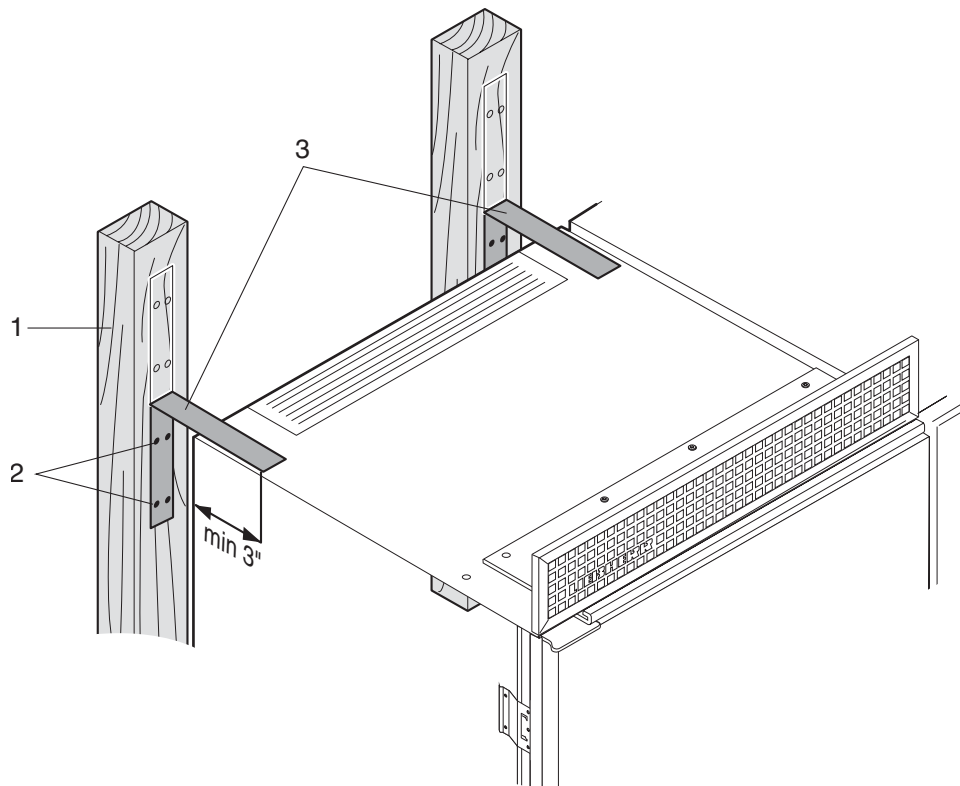

Figure 17
1. **Figure 17:** Secure the refrigerator in place so it does not tip forward when the fully stocked door is opened.